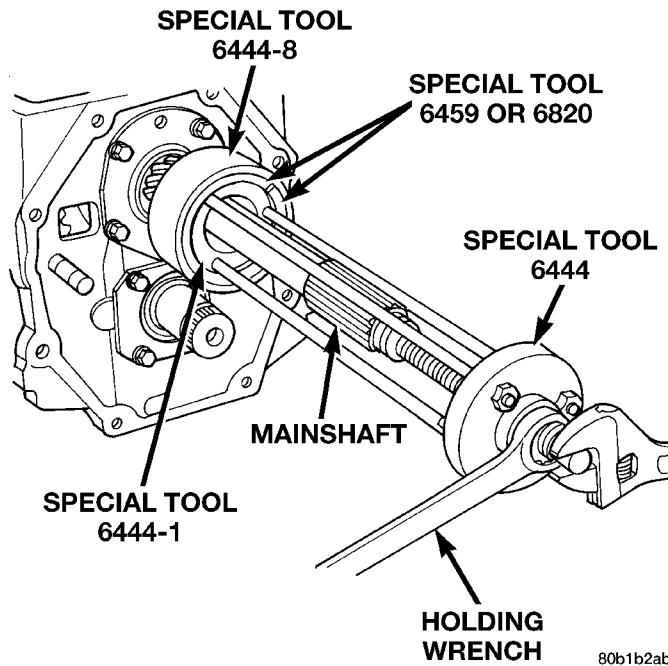

FIGURE 13 - Removing Fifth Gear From Mainshaft Splines
6. Install puller and bolt (Special Tool 6444) onto puller rods. Then, secure the puller to rods with the retaining nuts (Figure 13).